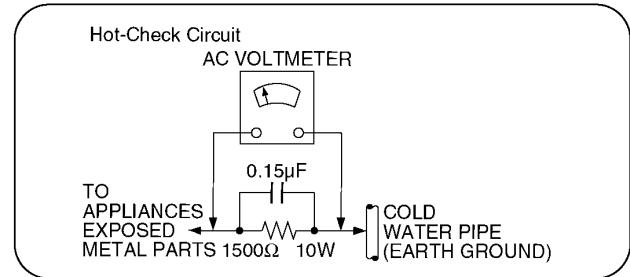

Figure 1
### 1.1.2. Leakage Current Hot Check (See Figure 1.)
2. Connect a 1.5kohm, 10 watts resistor, in parallel with a  $0.15\mu F$  capacitors, between each exposed metallic part on the set and a good earth ground such as a water pipe, as shown in Figure 1.